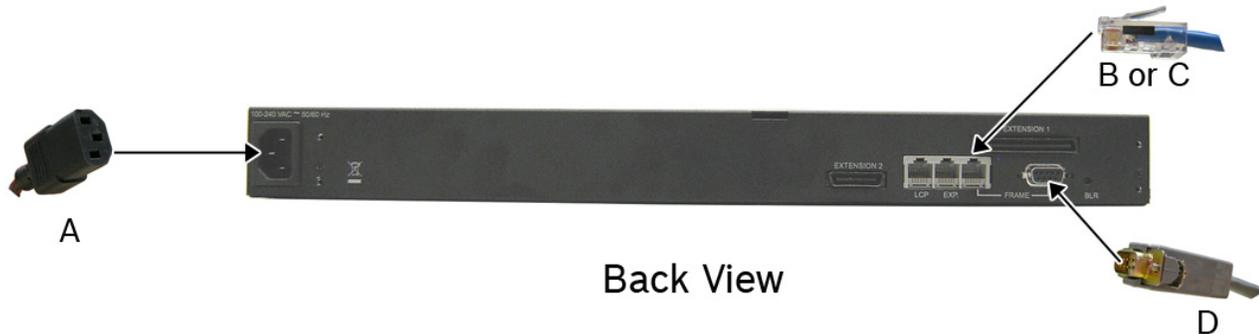

FIGURE 7. KP 12 CLD Installation
Connect an **RJ-45 cable with RTS cabling (C)** to the frame connector (see Figure 7).
Connect a **DB-9 cable (D)** to the DB-9 frame connector (see Figure 7).